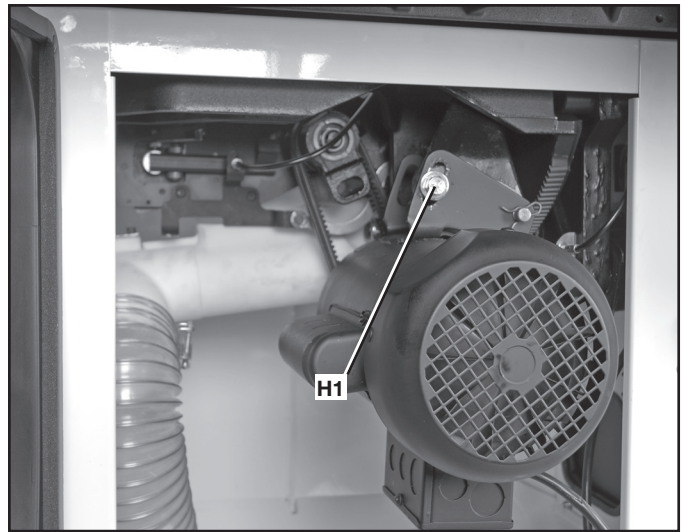

FIG. 54A
2. Loosen the bolt (H1) Fig. 54A, and carefully let the motor rest on the belts.
4. When proper tension is achieved, tighten bolt (H1) Fig. 54A.